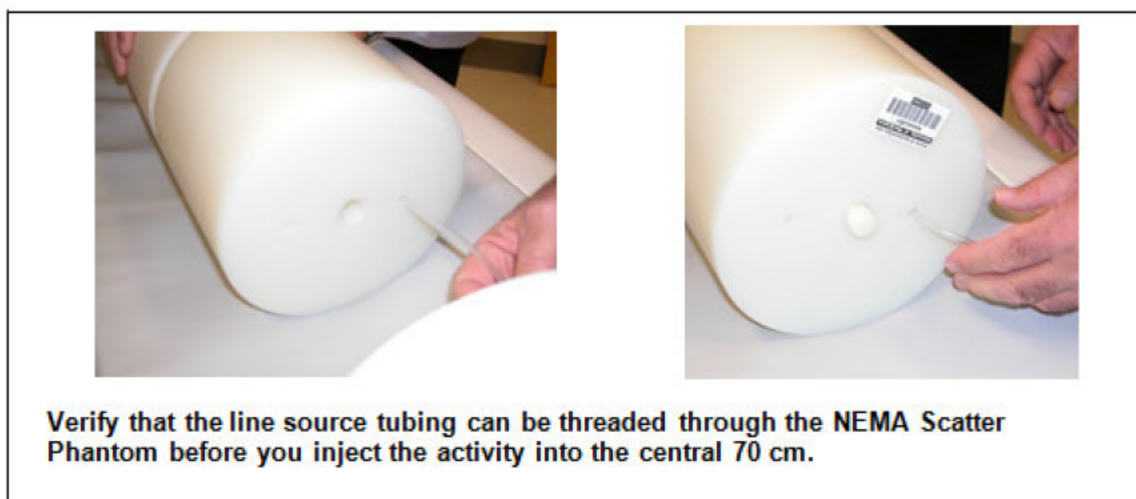

Figure 4.3: Thread the Line Source Tubing through the NEMA Phantom.
5. Refer to Figure 4.3. Verify that the tubing can be threaded through the NEMA scatter fraction